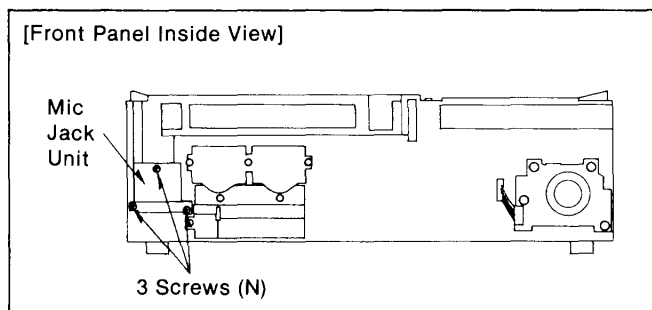

Figure D13
1. Unscrew the 3 screws (N) on the Mic Jack Unit (Figure D13).